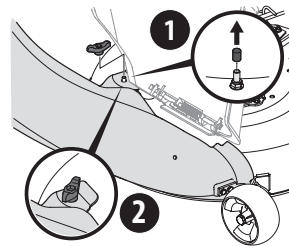

Figure 20
- Secure the boot to the deck using a wing knob (720-04122) from hardware pack 689-01419. See Figure 20.
**NOTE:** If present, remove the protective cap off of the mounting stud on the mowing deck as shown in the upper inset of Figure 20.